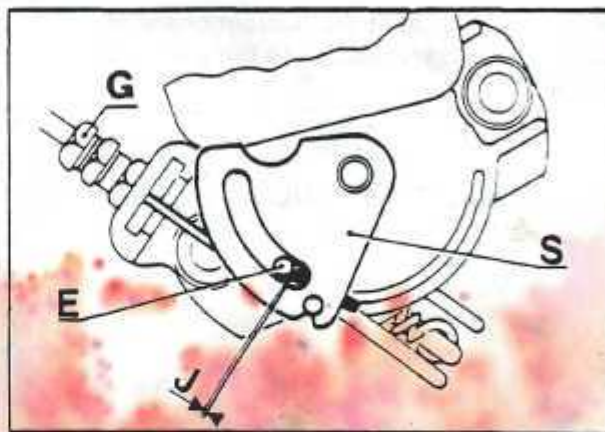

Fig. 11 GOVERNOR CONTROL CABLE ADJUSTMENT
4. Loosen the cable lock nut and adjust the cable sleeve stop (G) at the governor end to obtain clearance (J) between the quadrant arms and the 0.3–0.5 mm (.012–.020 in.). *Fig. 11*